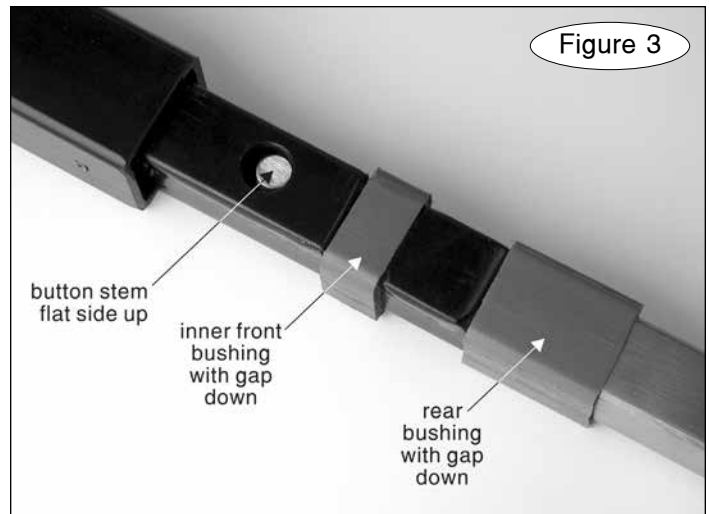
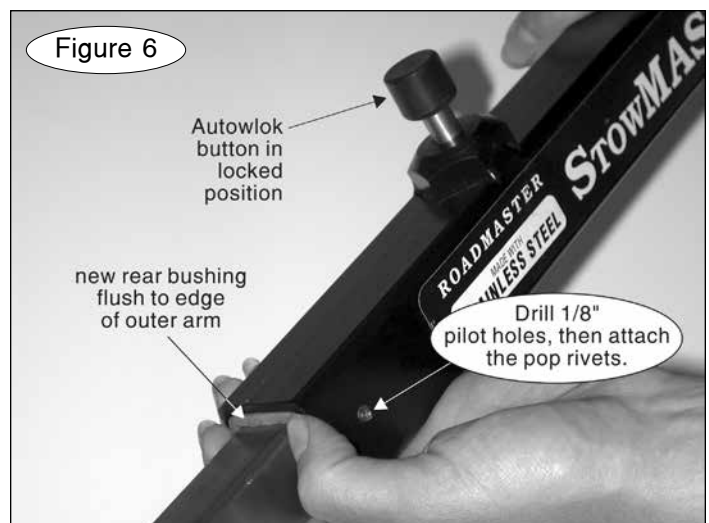

Figure 3
Figure 6
If the button stem will be replaced – first, insert the new button stem flat side up (Figure 3), into the opening near the inner front bushing. Then, slide the inner arm into the outer arm until the top of the button stem is visible through the hole in the outer arm.
5. Remove the old inner front bushing (Figure 3). Apply a light coat of lubricant to the inside of the new inner front bushing. Use a dry silicone aerosol, such as LubeMaster (part number 747).
With the gap in the new inner front bushing facing down (Figure 3), slide the bushing into position (Figure 3) on the inner arm.
6. Remove the old rear bushing (Figure 3).
9. Hold the pin down flush to the top of the inner arm, and insert the inner arm into the outer arm. Slide the arm forward until the Autowlok button snaps into the locked position (Figure 6).
10. Apply a light coat of lubricant to the inside of the new rear bushing. As before, use a dry silicone aerosol. Then, with the gap in the bushing facing down (Figure 3), slide the new rear bushing onto the inner arm and forward, until the edge of the bushing is flush to the edge of the outer arm, as shown in Figure 6.
13. With the safety bolt attached, the Autowlok button in the locked position (Figure 6) and the rear bushing flush to the edge of the outer arm (Figure 6), drill two 1/8" pilot holes for the pop rivets (Figure 6).